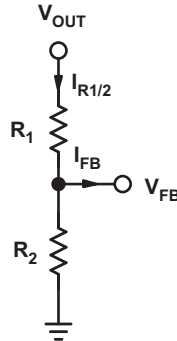

Figure 2. Resistive Divider for Setting the Output Voltage
R_1, R_2 = resistive divider, see Figure 2.
- Changed V_{IN} to V_{OUT} in Figure 2 4